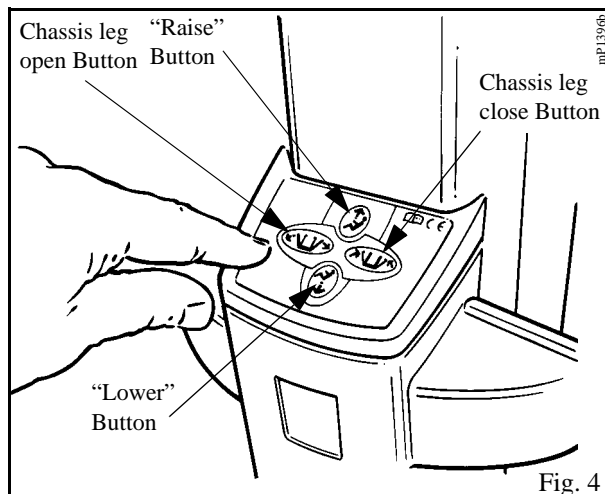

Fig. 4
**Dual Control Panel:-** (see fig. 4) An additional feature fitted to the *Tempo*, is a mast mounted dual switch panel which operates in parallel with the control handset enabling powered operations to be controlled from the lifter mast as well as remotely, using the handset. As with the handset, icons with direction arrows are printed on each button for quick reference.